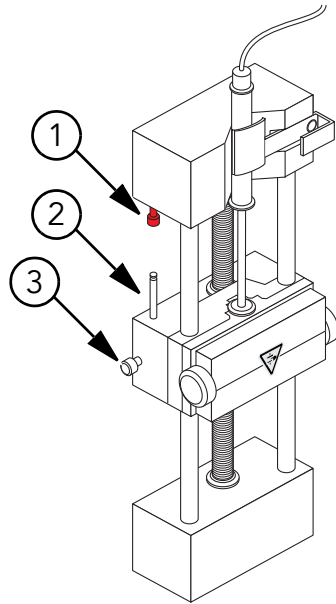

Figure 1-5 Safety stop
2. Adjust the post (Figure 1-5 Safety stop) so that it triggers the automatic syringe stop before the syringe plunger hits the glass syringe.